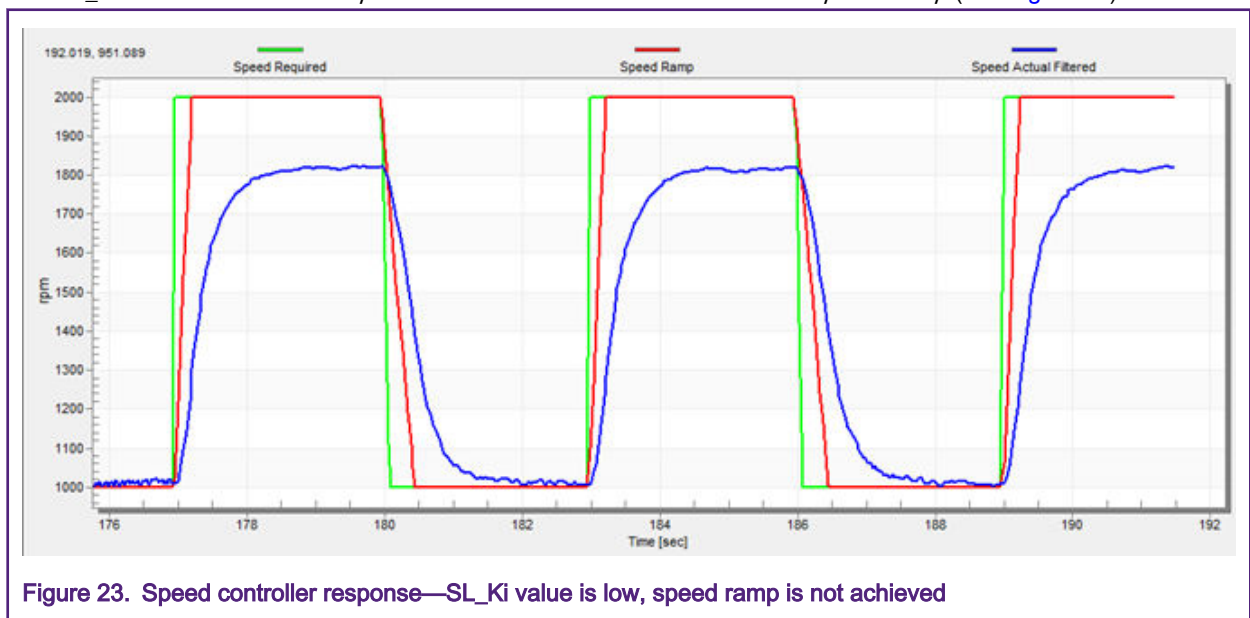

Figure 23. Speed controller response— $SL\_Ki$  value is low, speed ramp is not achieved
The motor speed control loop is a first-order function with a mechanical time constant that depends on the motor inertia and friction. If these mechanical constants are available, the PI controller constants can be tuned using loop bandwidth and attenuation. In practice, the values of the motor and the load inertias and frictions are very often unknown and it is quite difficult to obtain them. Therefore, a manual tuning of the P and the I portions of the speed controllers is available to obtain the required speed response. See the example response in Figure 23. There are dozens of approaches for tuning the PI controller constants. The following steps provide one of these examples to tune the speed PI controller for a PM synchronous motor.
- The  $SL\_Ki$  value is low and the *Speed Actual Filtered* does not achieve the *Speed Ramp* (see Figure 23).